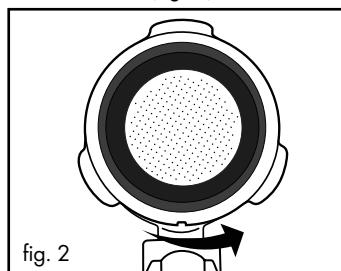

fig. 2
- Then turn the large 19 or small espresso sieve 20 slightly to ensure it cannot fall out (fig. 2).